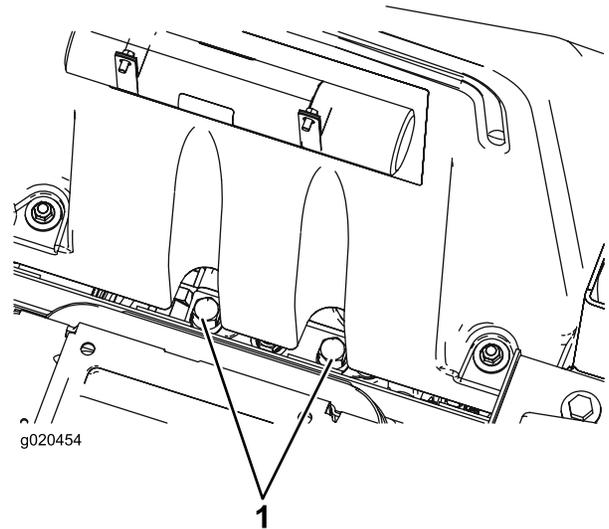

Figure 54
1. Raise the seat and locate the bypass valves, which are located below the front of the fuel tank (Figure 54).